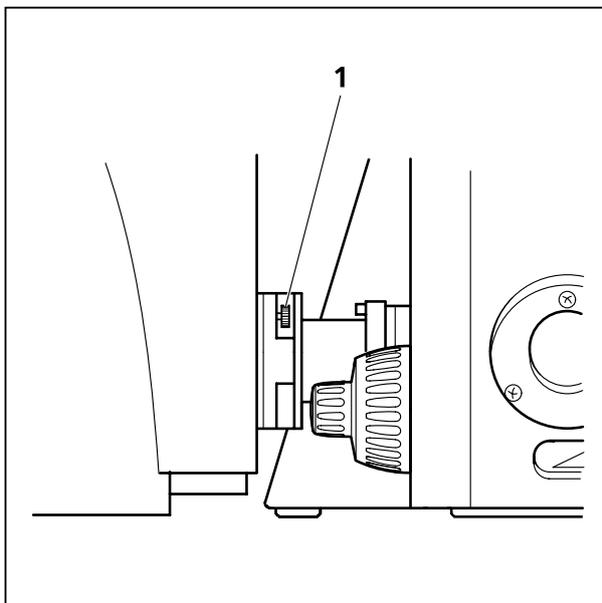
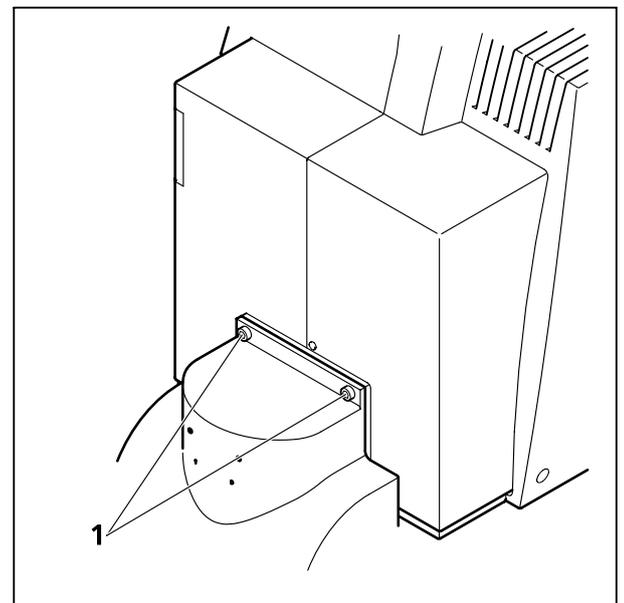

**Fig. 1-15** Position of the screw on the LSM 510 META scan head
**Fig. 1-16** Position of the screw on the LSM 510 scan head
- Loosen the screw on the lower end of the scan head (Fig. 1-15/1 and Fig. 1-16/1)
closely. Fasten the screws on the front of the tube (Fig. 1-18/1) or at the microscope port (Fig. 1-17/1) followed by fastening the screw on the back of the scan head (Fig. 1-15/1 and Fig. 1-16/1).